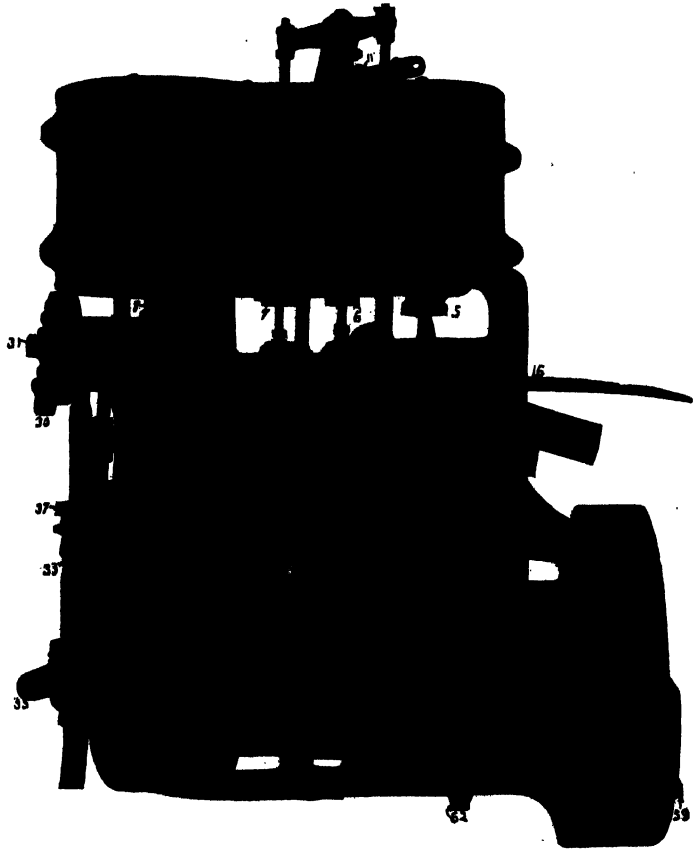

FIG. 3. LEFT SIDE OF WHITE ENGINE.
1. High-pressure cylinder. 2. Low-pressure cylinder into which the steam passes from the high-pressure cylinder; and thence to the condenser or cooler. 4. Aluminium crank case. 5. High-pressure piston rod gland. 6. High-pressure slide valve rod gland. 7. Low pressure slide valve rod gland. 8. Low-pressure piston rod gland. 13. Flywheel. 15. Water pipe connections. 16. Pipe to hand by-pass. 19. Water regulator. 28. Part of the power water pump (see Nos. 20-29., fig. 3.) 33 to 37. Return pump condenser to water tank connections. 42. Main steam connection.. 43. Crosshead guides. 44 to 48. Power air pump's parts. 49, 50 and 51. Link motion. 53. Adjusting aperture. 61. Power air pump. 62. Drain plug.